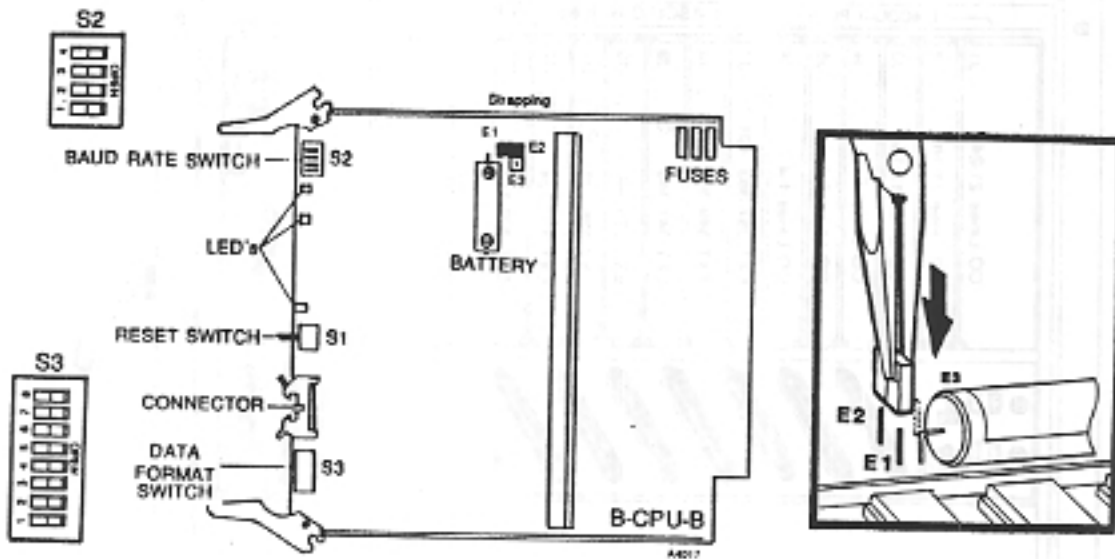

Figure 5-11 CENTRAL PROCESSING UNIT ( B-CPU-B ) PCB
- From 'E1' to 'E2' to prevent memory loss during power failure ( Figure 5-11 ).
- Set the baud rate switch ( S2 ) to match the baud rate of the programming terminal ( Table 5-6 and Figure 5-11 ).
- Set the Data Format Switch ( S3 ) before the system is programmed ( Table 5-7 and Figure 5-11 ).
- Press the Reset Switch ( S1 ) ( Figure 5-11 ).
- Attach the ribbon cable shipped with the Auxiliary PCB to the connectors on the B-AUX-A and the B-CPU-B PCBs ( Figures 5-11 and 5-14 ).